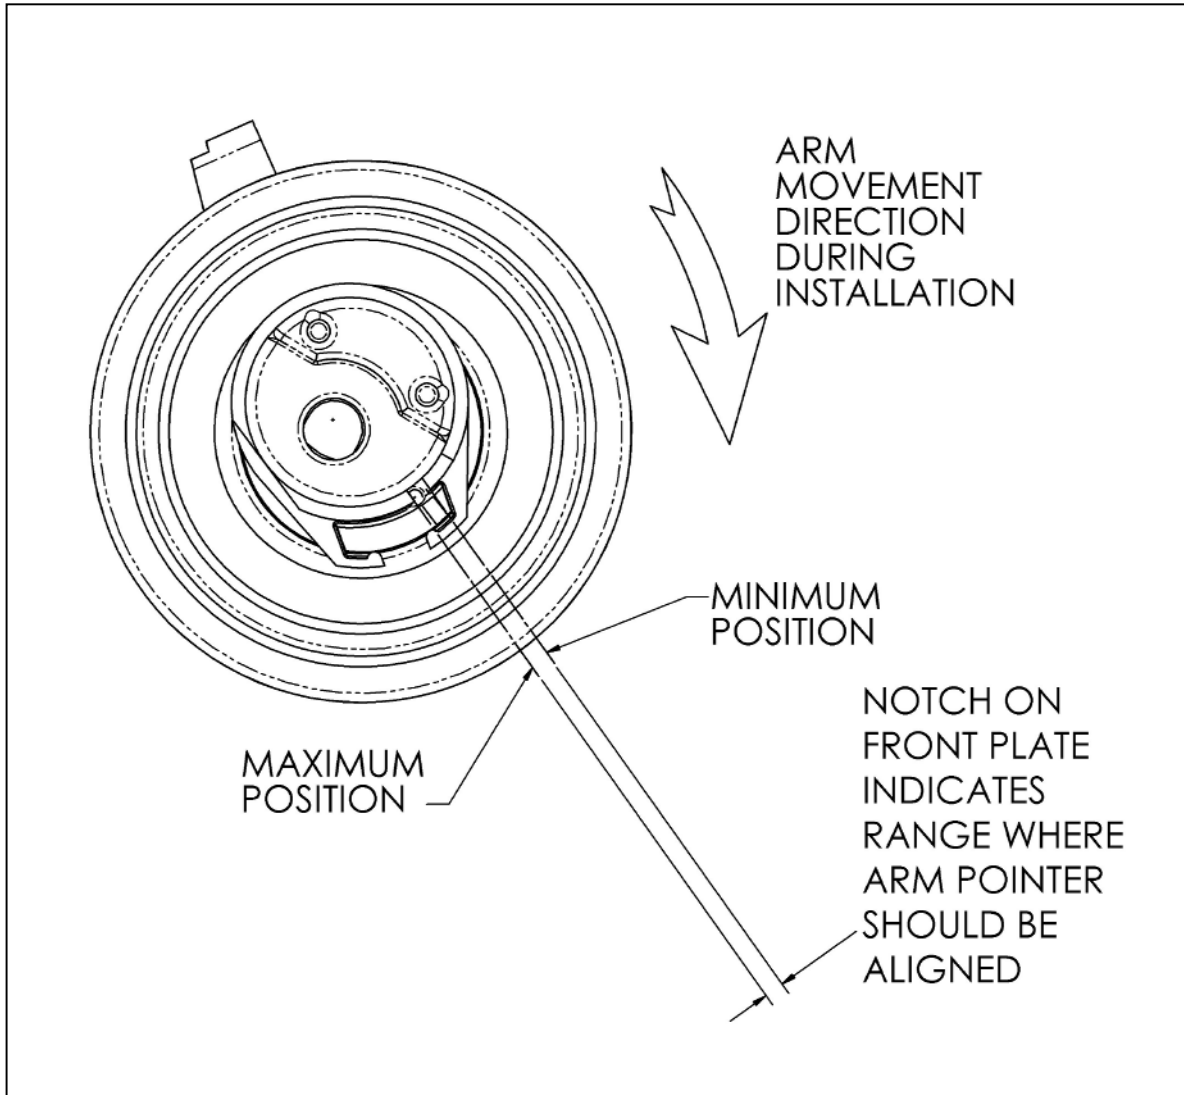

Figure 10: Indicator Alignment Range
14. Remove both the Installation Tool and the Torque Wrench. Rotate the crankshaft two (2) complete revolutions manually for proper seating of the belt until the crankshaft and camshaft sprockets are repositioned at the TDC position.
- If the Arm Pointer aligns with the Nominal Position Notch between the minimum and maximum width of the notch on the front plate after rotating the crankshaft, the installation is complete (Figure 10).